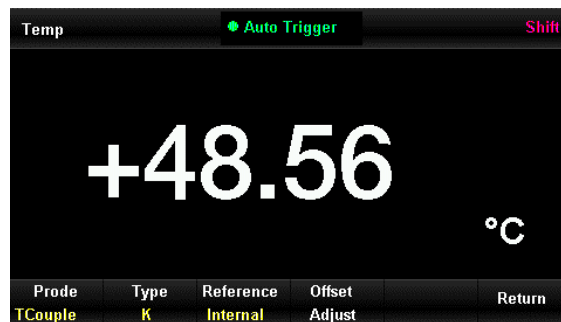

Figure 2-27 Interface of temperature measurement
- 1) Press **Shift** button and then press **Temp** button to enter interface of temperature measurement as Figure 2-27.